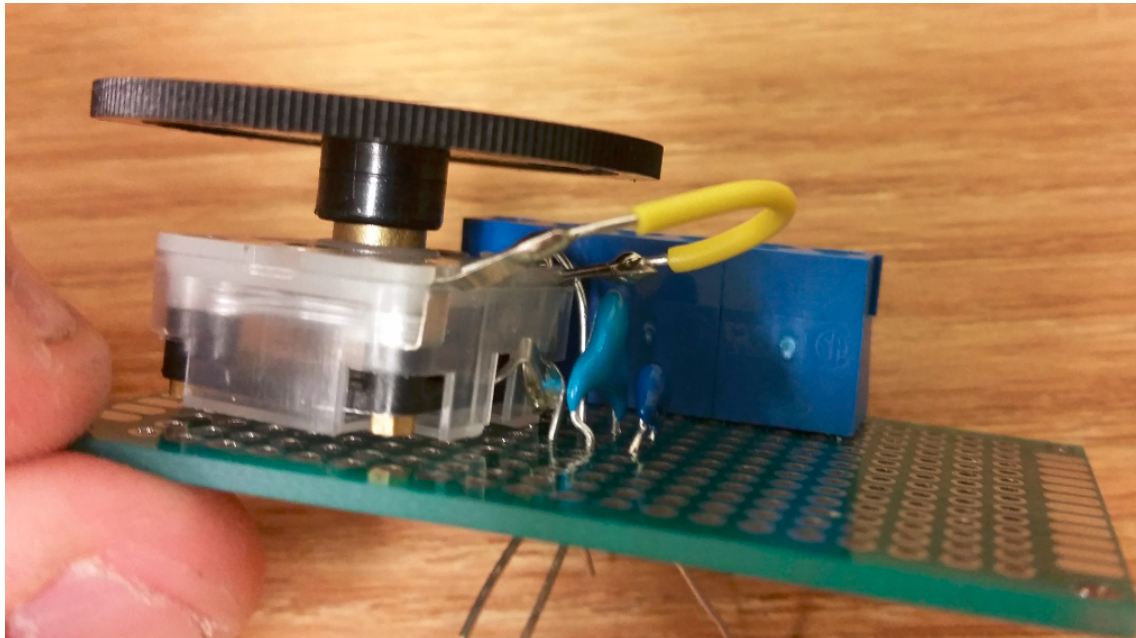

Figure 5: Installation of capacitors and one terminal block
6. Place one of the terminal assembled terminal blocks adjacent to the capacitor bank as shown (Figs 5&6):